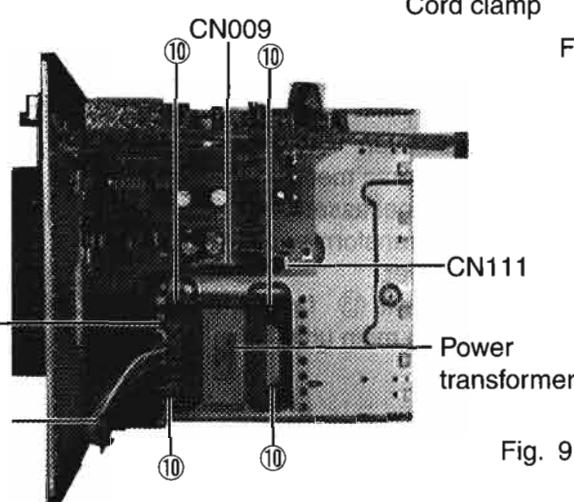

Fig. 9
5. Remove the four screws ⑩ fastening the power transformer assembly to the back side of the main unit.(See Fig. 9)
6. Disconnect the connector wires connected to the power transformer board from connectors CN111 and CN009 on the power amplifier board. (See Fig. 9)